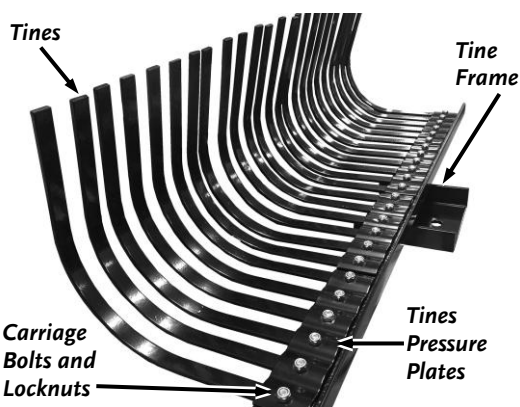

Figure 11
1. Use a 17mm Wrench to remove the Carriage Bolt and Locknut that secures the Tine (**Figure 11**). Slide the Tine out of the Tine Pressure Plate.